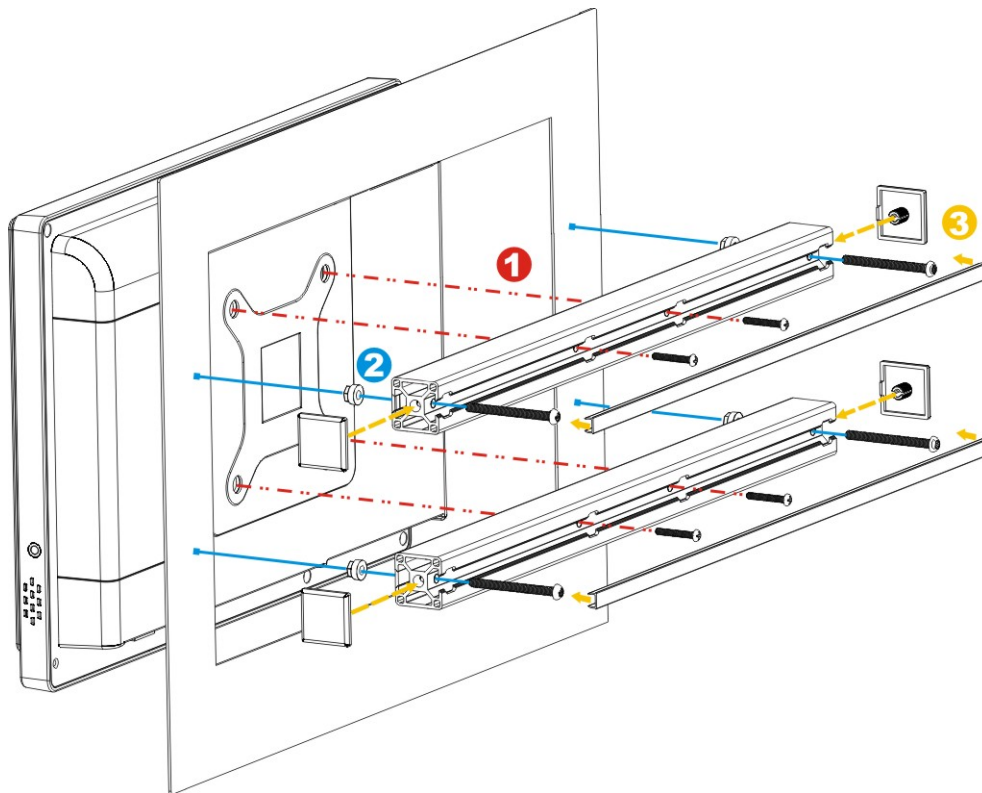

Figure 3-16: Tighten the Panel Mounting Clamp Screws
- Step 5:** Secure the two panel mounting brackets to the rear of the panel PC by inserting the four retention screws into the VESA mounting holes (**Figure 3-16 ①**).
- Step 6:** Insert the panel mounting clamps into the holes of the panel mounting brackets (**Figure 3-16 ②**). There are a total of 4 panel mounting clamps for AFL2-10A-N28.
- Step 8:** Install the covers into the panel mounting bracket. Each mounting bracket includes two side covers and one top cover (**Figure 3-16** ③).